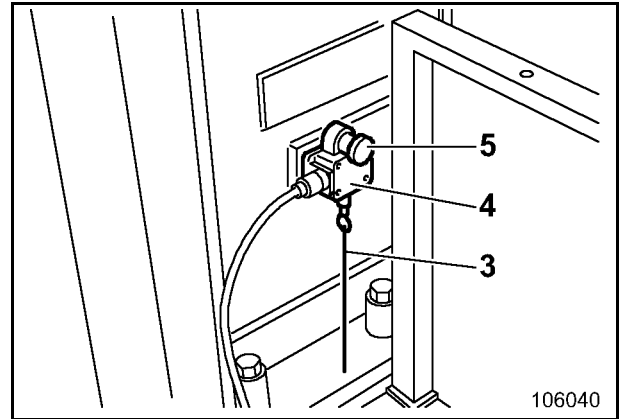

Fig. 2-55:
- ➔ Activate emergency OFF pushbutton (4, Fig. 2-55:)